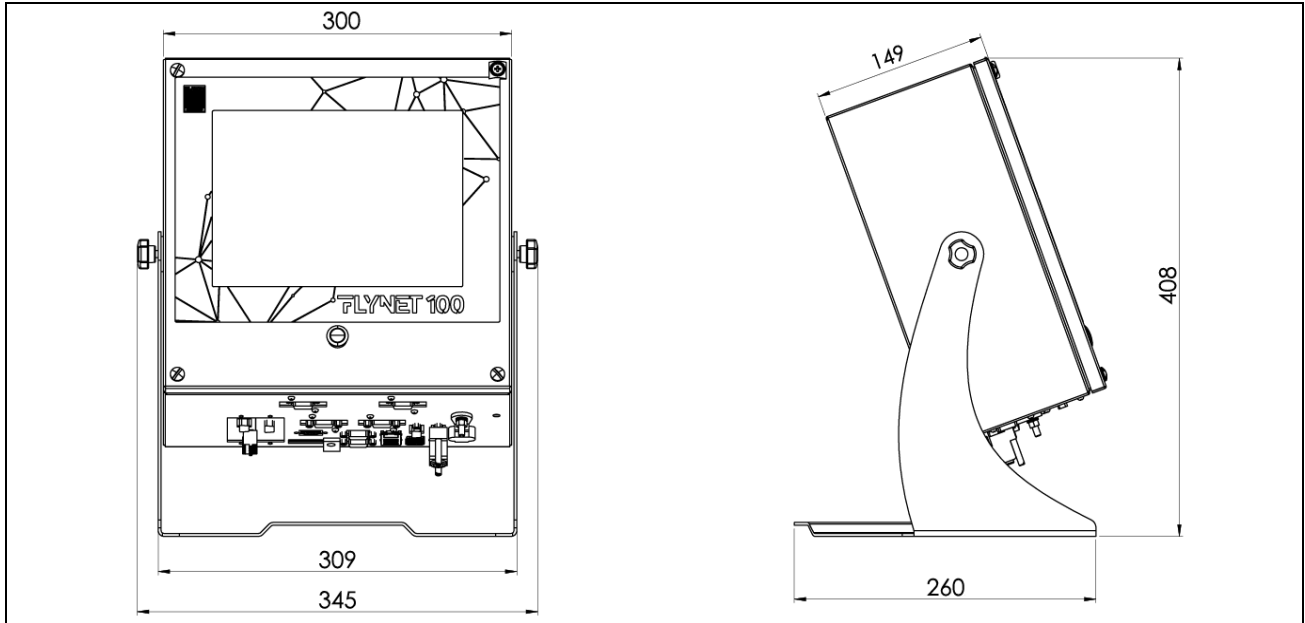

Figure 1.9-1 - Weighing indicator dimensions, tabletop IC stainless steel version
- Dimensions (in mm): see Figure 1.9-1.